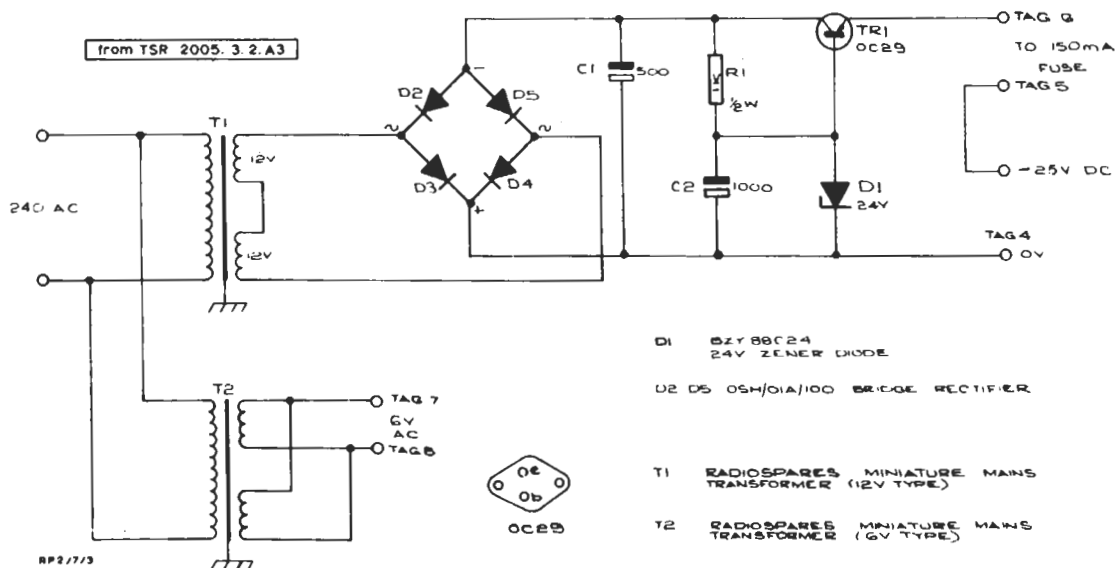

Fig. 3. Power Supply Circuit of the RP2/7
**Power Supply Circuit (Fig. 3)**
**D.C. Test Measurements (Figs. 3 and 7)**
(a) Power Supply Unit (Fig. 3)